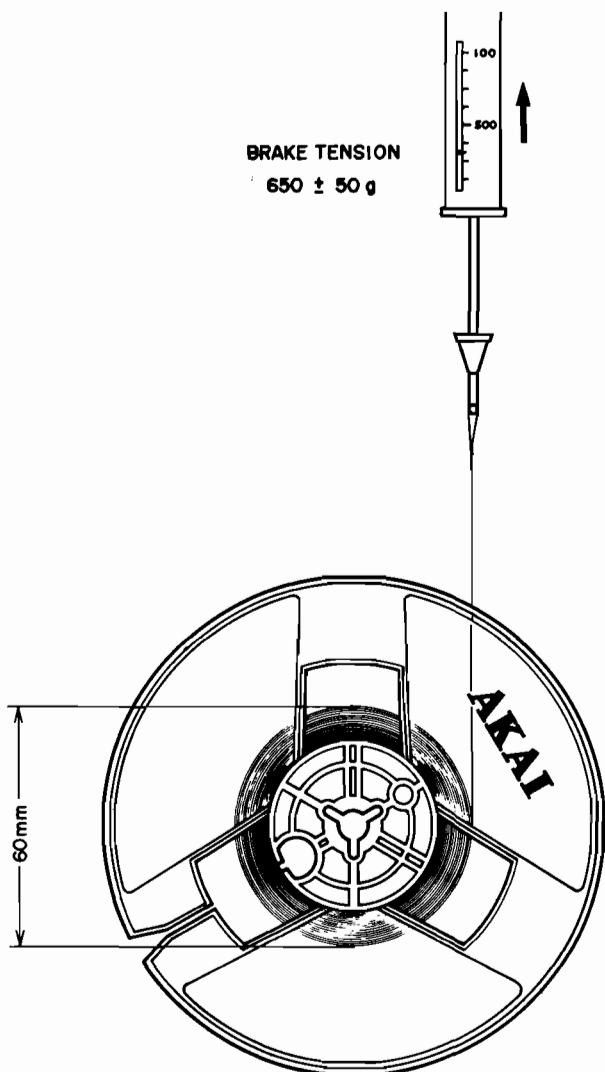

Fig. 14
- 1) As shown in Fig. 14, brake tension is measured with a spring gauge using a 60 mm diameter tape wound on a 5" reel. Ideal brake tension is 650 ± 50 gr, and left/right deviation allowance should be within 50 gr.